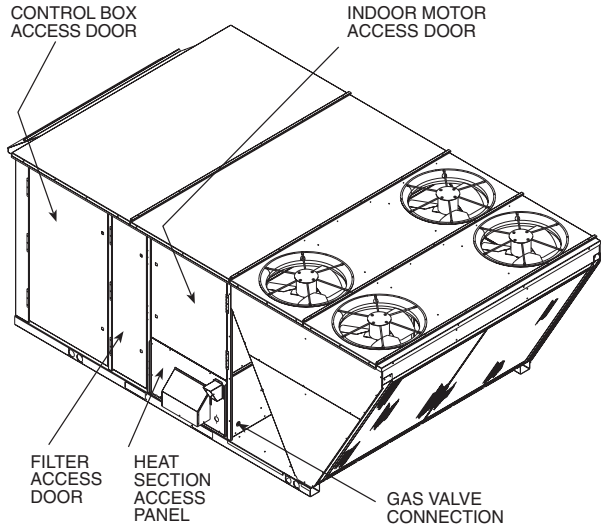

Fig. 1 — Panel Locations
3. Remove heat section access panel. See Fig. 1.
section access panel (Fig. 1), flue box cover, and main burner assembly (Fig. 6). Refer to Step 1 section for burner removal sequence. If cleaning is required, clean tubes with a wire brush.